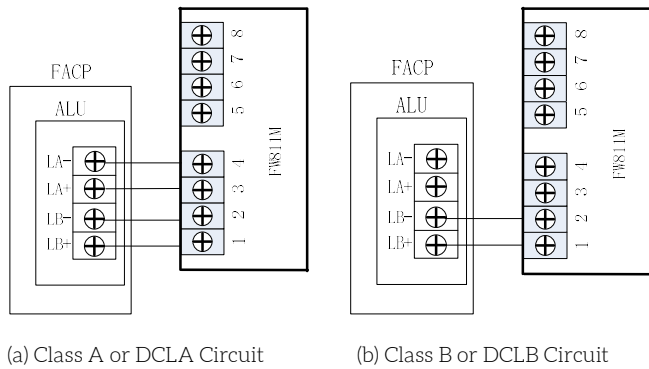

Figure 1 Wiring Diagram (SLC/DCL)
2. Wire the SLC/DCL to the module, as illustrated in Figure 1.